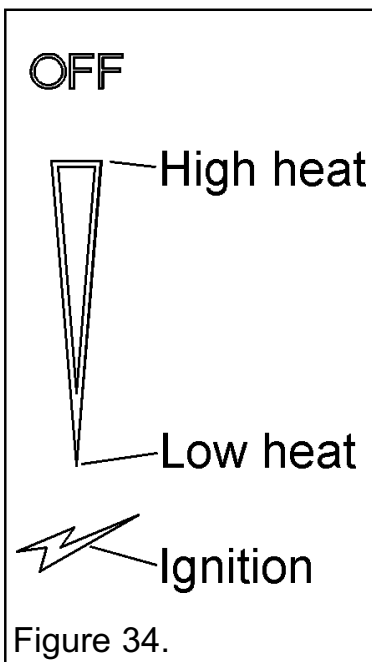

Figure 34.
The control position markings on the fascia are shown in figure 34.
1. Gradually slide the knob up to increase the burner setting. The burner should be at its maximum setting at the high heat position shown in figure 34. You should feel a check to the knob movement at this position.